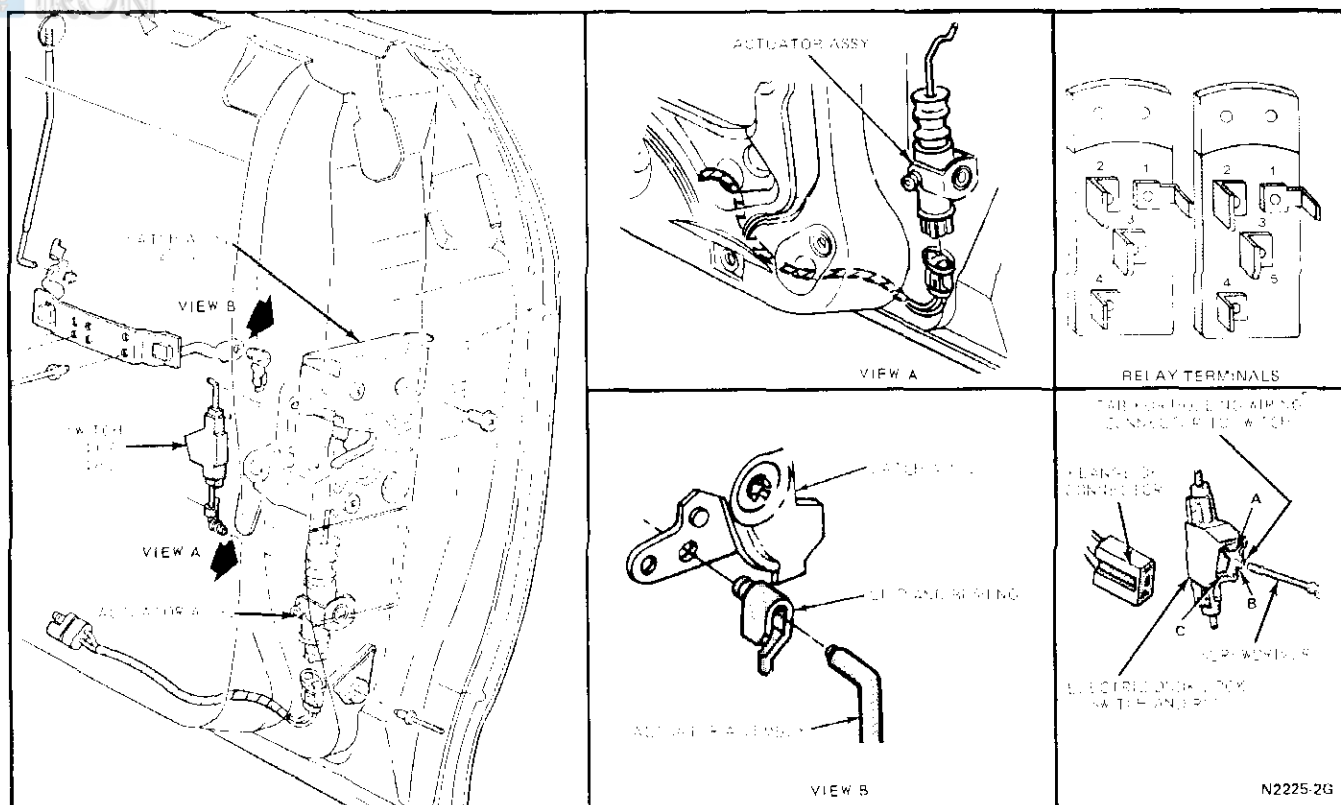

FIG. 1 Power Door Lock Actuator, Switch and Relay—LTD II, Granada, Monarch and Cougar
Apply 12 volts to one terminal of the motor's (actuator) connector and ground the other terminal (Fig. 1). The motor (actuator) gear should finish its travel in less than one (1) second.
Continuity should exist between terminals A and B with the switch held in one position and between terminals B and C with the switch held in the other position (Fig. 1).
To remove the door lock actuator motor (Fig. 1), remove the door trim panel and watershield. Then, disconnect the actuator motor link from the door latch. Remove the screws or pop rivets attaching the actuator motor to the door and disconnect the wiring at the connector. Remove the actuator motor.
The power door switch is an integral part of the door lock push button rod. To replace the switch, remove the door trim panel and watershield (Group 45). The switch must be detached from the door latch and/or bellcrank before disconnecting or connecting the wiring connector. (See Fig. 1.)
Disengage the push button rod from the latch. To disengage the wiring connector from the switch, apply pressure under the tab with a small screwdriver (Fig. 1).